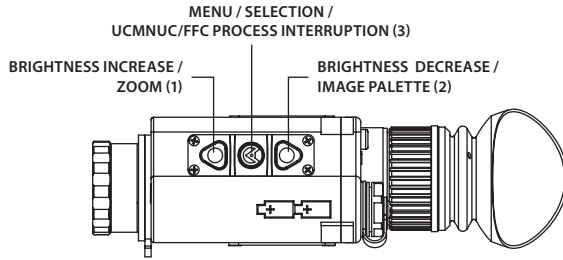

FIGURE 3-14. SETTING BUTTONS
6. Using the buttons on the control panel (Figure 3-14), configure the Prometheus-C to adapt it to your situation.